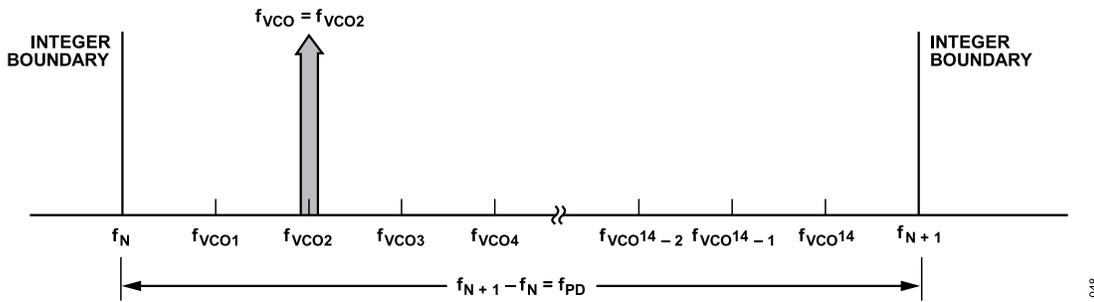

Figure 26. Exact Frequency Tuning
$f_{VCO}k$  is the channel step frequency,  $0 < k < 2^{24} - 1$ , as shown in Figure 26.
Some fractional PLLs are able to achieve these exact frequencies by shortening the length of the phase accumulator (the denominator or the modulus of the  $\Delta$ - $\Sigma$  modulator) so that the  $\Delta$ - $\Sigma$  modulator phase accumulator repeats at an exact period related to the interval frequency ( $f_{VCO}k - f_{VCO}(k-1)$ ) in Figure 26. Consequently, the shortened accumulator results in more frequent repeating patterns
When multiple, equally spaced, exact frequency channels are needed that fall within the same interval (that is,  $f_N \leq f_{VCOk} < f_{N+1}$ ) where  $f_{VCOk}$  is shown in Figure 26 and  $1 \leq k \leq 2^{14}$ , it is possible to maintain the same Integer N register (Register 0x03) and exact frequency register (Register 0x0C) settings and only update the fractional register (Register 0x04) setting. The exact frequency channel mode is possible when Equation 16 is satisfied for at least two equally spaced adjacent frequency channels, that is, the channel step size.
To configure the ADF5610 for exact frequency channel mode, initially and only at the beginning, the Integer N register (Register 0x03) and exact frequency register (Register 0x0C) must be programmed for the smallest  $f_{VCO}$  frequency ( $f_{VCO1}$  in Figure 26). Calculate and program the integer register setting by
where  $f_{VCO1}$  is shown in Figure 26 and corresponds to the minimum channel VCO frequency. Then, the lower integer boundary frequency is given by  $f_N = N_{INT} \times f_{PD}$ .
$f_{VCO1}$ , as shown in Figure 26, represents the smallest channel VCO frequency that is greater than  $f_N$ .
- To change from Channel 1 ( $f_{VCO1} = 2800.2$  MHz) to Channel 2 ( $f_{VCO2} = 2800.3$  MHz), only Register 0x04 must be programmed, as long as all of the desired exact frequencies ( $f_{VCOk}$ , see Figure 26) fall between the same Integer N boundaries ( $f_N < f_{VCOk} < f_{N+1}$ ). In that case,